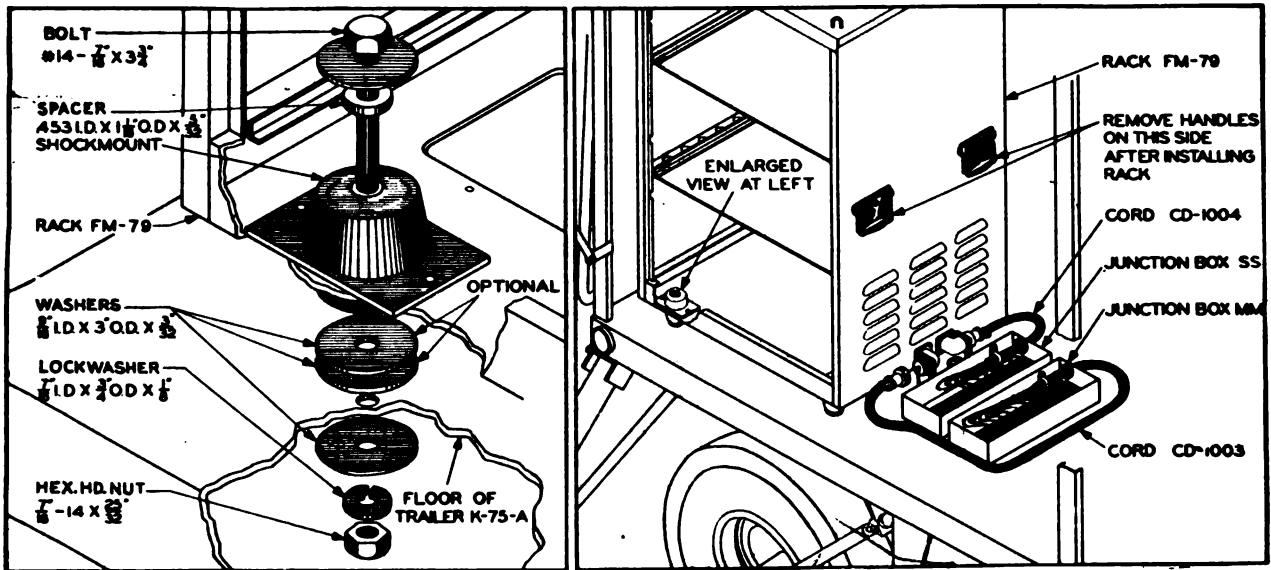

Figure 33. Rack FM-79, installation details.
c. Place a bolt through each of the four shock mounts at the bottom of the rack and through the floor of the trailer (fig. 33). If the bottom of any of the shock mounts is more than 1/2-inch above the floor, use extra washers as shown.
d. Secure the rack to the floor, using the hardware shown in figure 33.
e. Remove the two handles on the side of the rack next to junction boxes MM and SS (fig. 33).
(fig. 33)